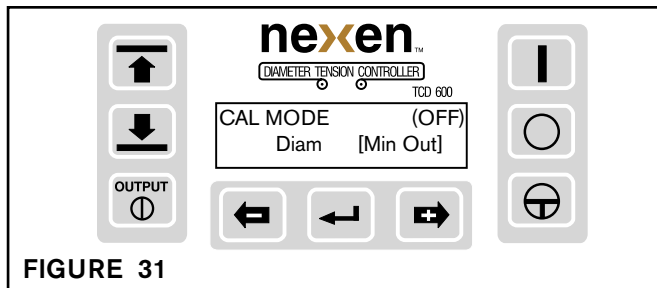

FIGURE 31
- CAL MODE, Diam [Min Out]: will appear in the display (See Figure 31). Using the plus or minus button, select Min Out then press the Enter button.